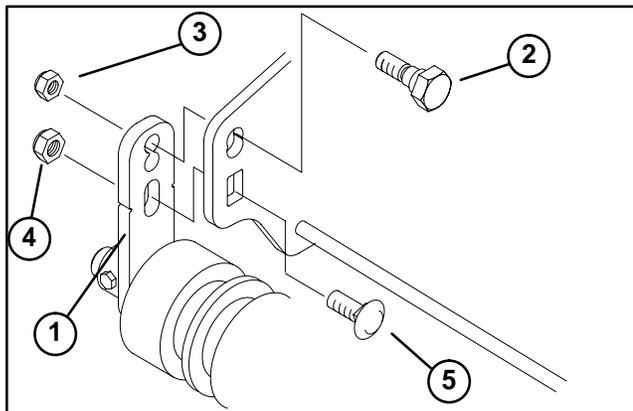

Figure 31
Note: The top of the right front bracket is secured to the frame with an eccentric bolt, while the left front bracket is secured with a shoulder bolt (Fig. 31).
A. Insert eccentric bolt (shoulder bolt) through one of the two positions in the figure 8 hole in the frame and one of the top holes of the front bracket (Fig. 31) so the point on the bracket is at the desired position.